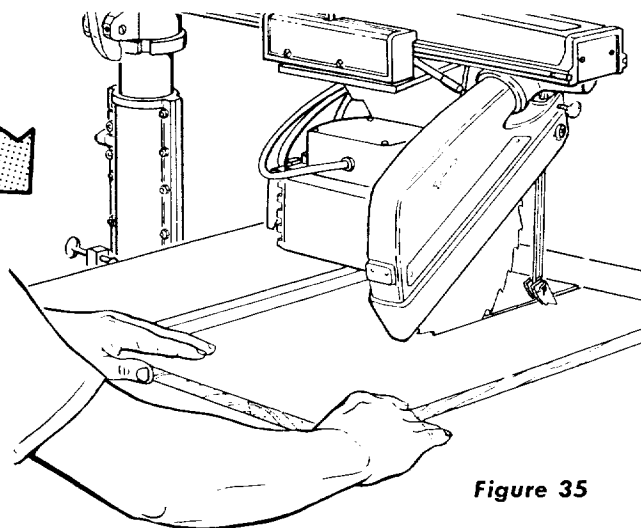

Figure 35
2. When ripping, always rotate the guard until the rear of guard housing is just slightly above the board being ripped. (See figure 35.) Make sure the guard clamp screw is tight.